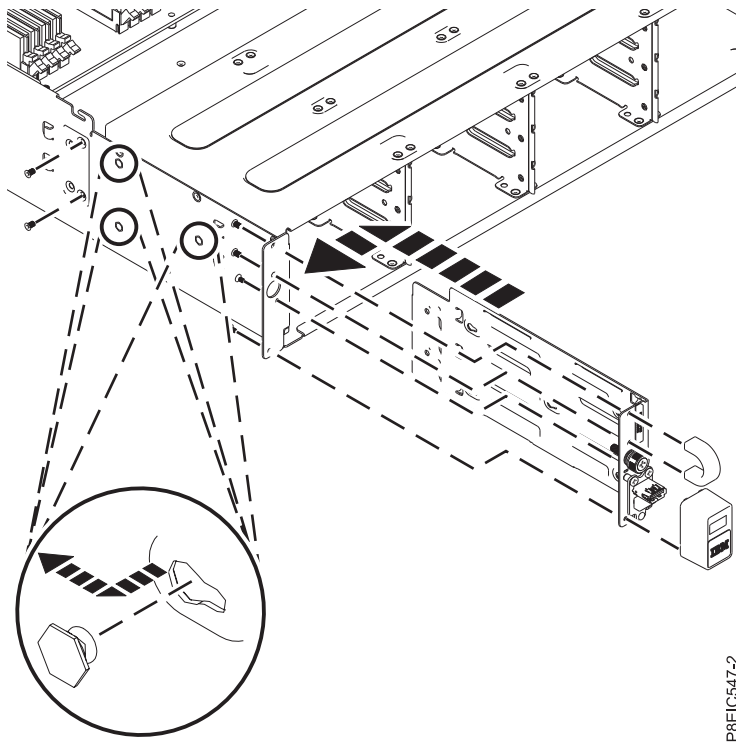

Figure 111. Replacing the front USB and cable
3. Insert the front USB and cable into the chassis, as shown in Figure 111.
4. Align the USB assembly with the pins on the inside of the chassis, then slide the USB assembly to the rear of the enclosure to secure it to the pins, as shown in Figure 111.
5. Replace the two screws that secure the USB assembly to the side of the chassis, as shown in Figure 111.
6. Replace the four screws that secure the USB bezel and the handle, as shown in Figure 111.